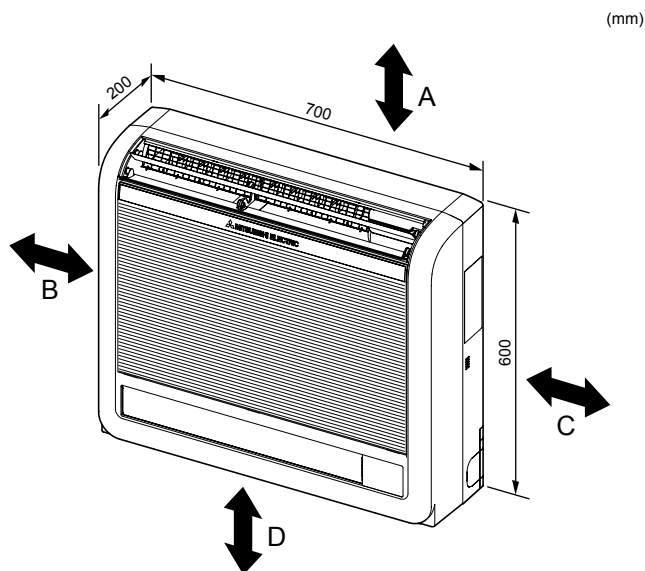

Fig. 2-1
①	Drain hose	1
②	Pipe cover	1
③	Band	2
④	Indoor unit mounting bracket	1
⑤	Fixing screw for ④ 4 × 25 mm	5
⑥	Wood screw for the indoor unit fixation	4
⑦	Washer of ⑥	4
⑧	Felt tape (Used for left or left-rear piping)	1
⑨	MA Remote controller cable	1
2.1. Outline dimensions (Indoor unit) (Fig. 2-1)